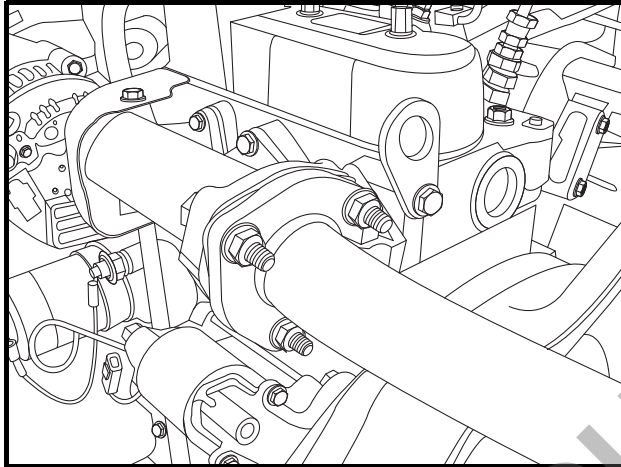

Figure 13b-6 Diesel Manifold Pipe Flange
1. Remove the three bolts and flange-head locknuts (**Figure 13b-6, Page 13b-6**).
3. Install new bolts and flange-head locknuts. Tighten the hardware to 21 ft-lb (28.5 N·m) (**Figure 13b-6, Page 13b-6**).